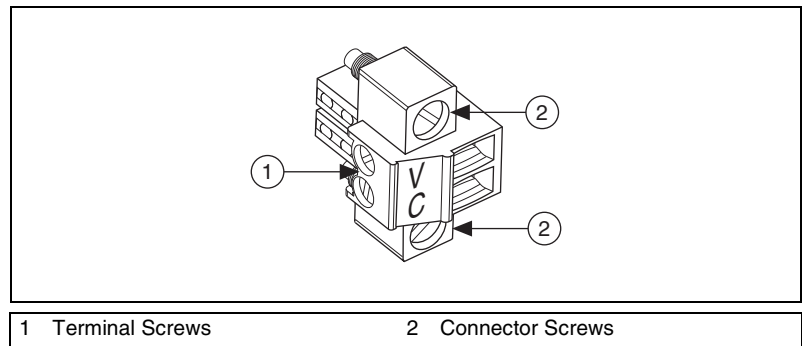

Figure 13. COMBICON Power Connector
1. Connect the positive lead of the power supply to the V terminal of the COMBICON power connector shipped with the cRIO-9075/9076, and tighten the terminal screw. Figure 13 shows the terminal screws, which secure the wires in the screw terminals, and the connector screws, which secure the power connector on the front panel.